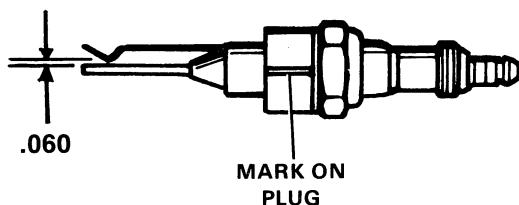

FIG. 12
3. Clean off any deposits and check the spark gap with an automotive wire gauge. The gap should be .060. If a wire gauge is not available a penny can be used, it also is .060 in thickness. (Fig. 12)